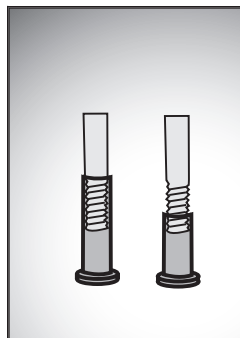

Figure 2- Brake nut thread engagement
3. Install the front brake using the special extra-long brake nut provided (Figure 2).
A Bontrager fork crown has a deeper cross-section than a standard fork crown, so a standard brake nut may not provide adequate thread engagement on a standard front brake bolt (Figure 2). Use only the extra-long brake nut supplied with the Bontrager fork. Failure to properly attach the front brake may cause loss of control resulting in serious personal injury or death.